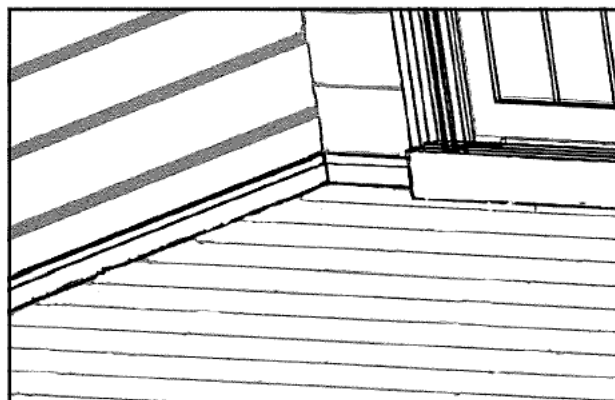

FIG 20
5. Cut the skirting boards to suit (NOT UNDER DOOR FRAMES) and fix with 40mm oval nails at approx 400mm centres (fig 20)